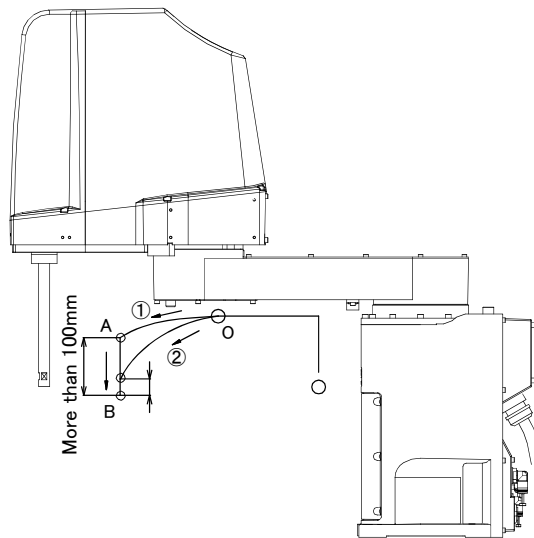

Fig.2-7 : Recommended path when positioning at the bottom edge of the Z axis
- 3) When positioning the work near the bottom edge of the Z axis, if no effectiveness is achieved in step "2" above, perform operation ① (robot path: O → A → C). In the case of operation ② (robot path: O → B → C), residual vibration may occur. (Refer to Fig. 2-7.)